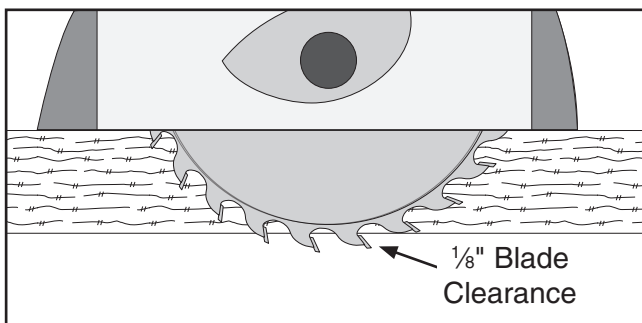

Figure 15. Setting saw depth by aligning blade with workpiece.
3. Position saw along one edge of workpiece, press plunge release, and extend blade roughly $\frac{1}{8}$ " beyond bottom of workpiece, as shown in **Figure 15**.